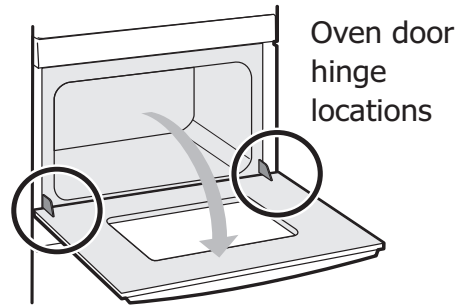

Figure 21: Door hinge location.
3. Fully open the oven door, horizontal with floor (Figure 21).